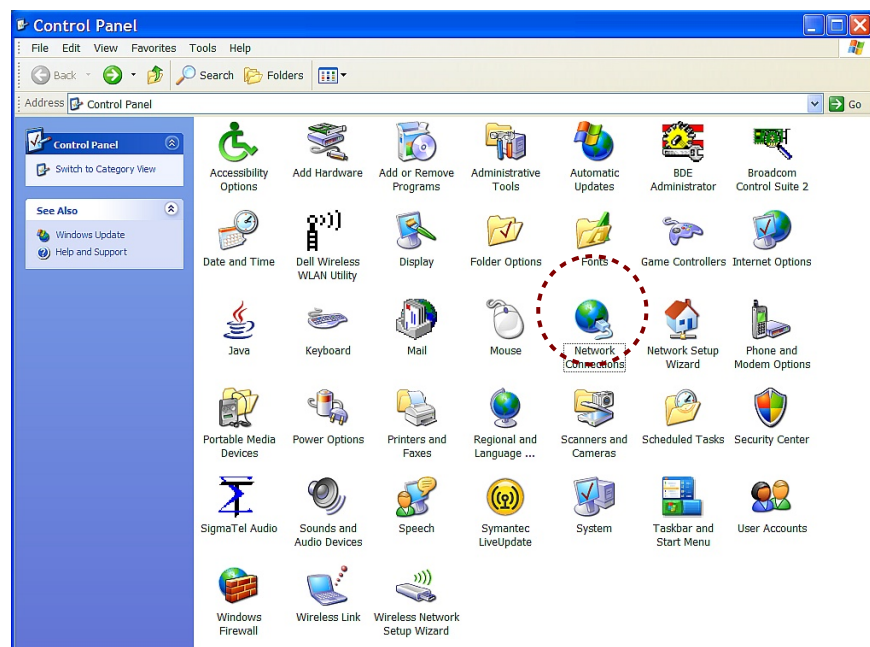

Figure 2.3b- Control Panel
*Note: The control panel shown (Figure 2.3b) is in "Classic View." If the control panel is in "Category View," select the "Classic View" option before proceeding.*